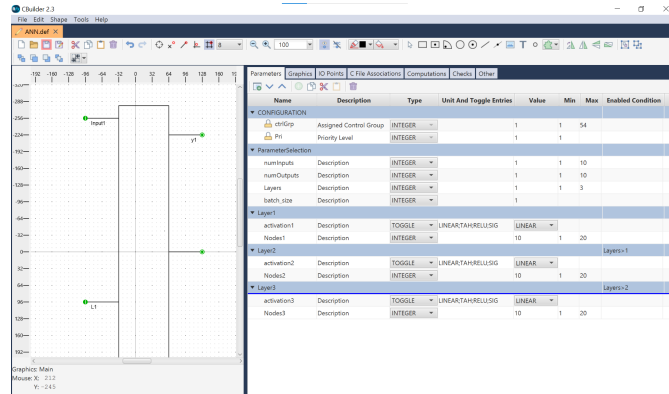

Figure 1.10: Component opened from .def file.
4. The opened component looks like in Fig. 1.10.